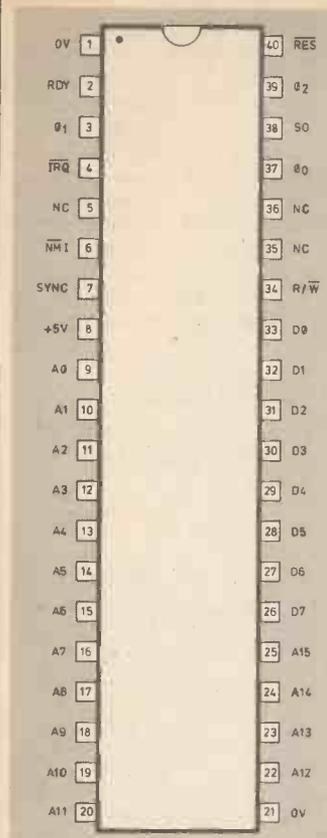

Fig. 5.5. Pin connections for the 6502 microprocessor.
- (d) If the microprocessor appears to be running and the fault is not intermittent in nature, the next stage involves a few simple checks of the control signals present at the microprocessor itself. Figs. 5.5 to 5.8 show the pin connections for four popular 8-bit microprocessors. In each case, use a logic probe (see Part Two) to confirm that: